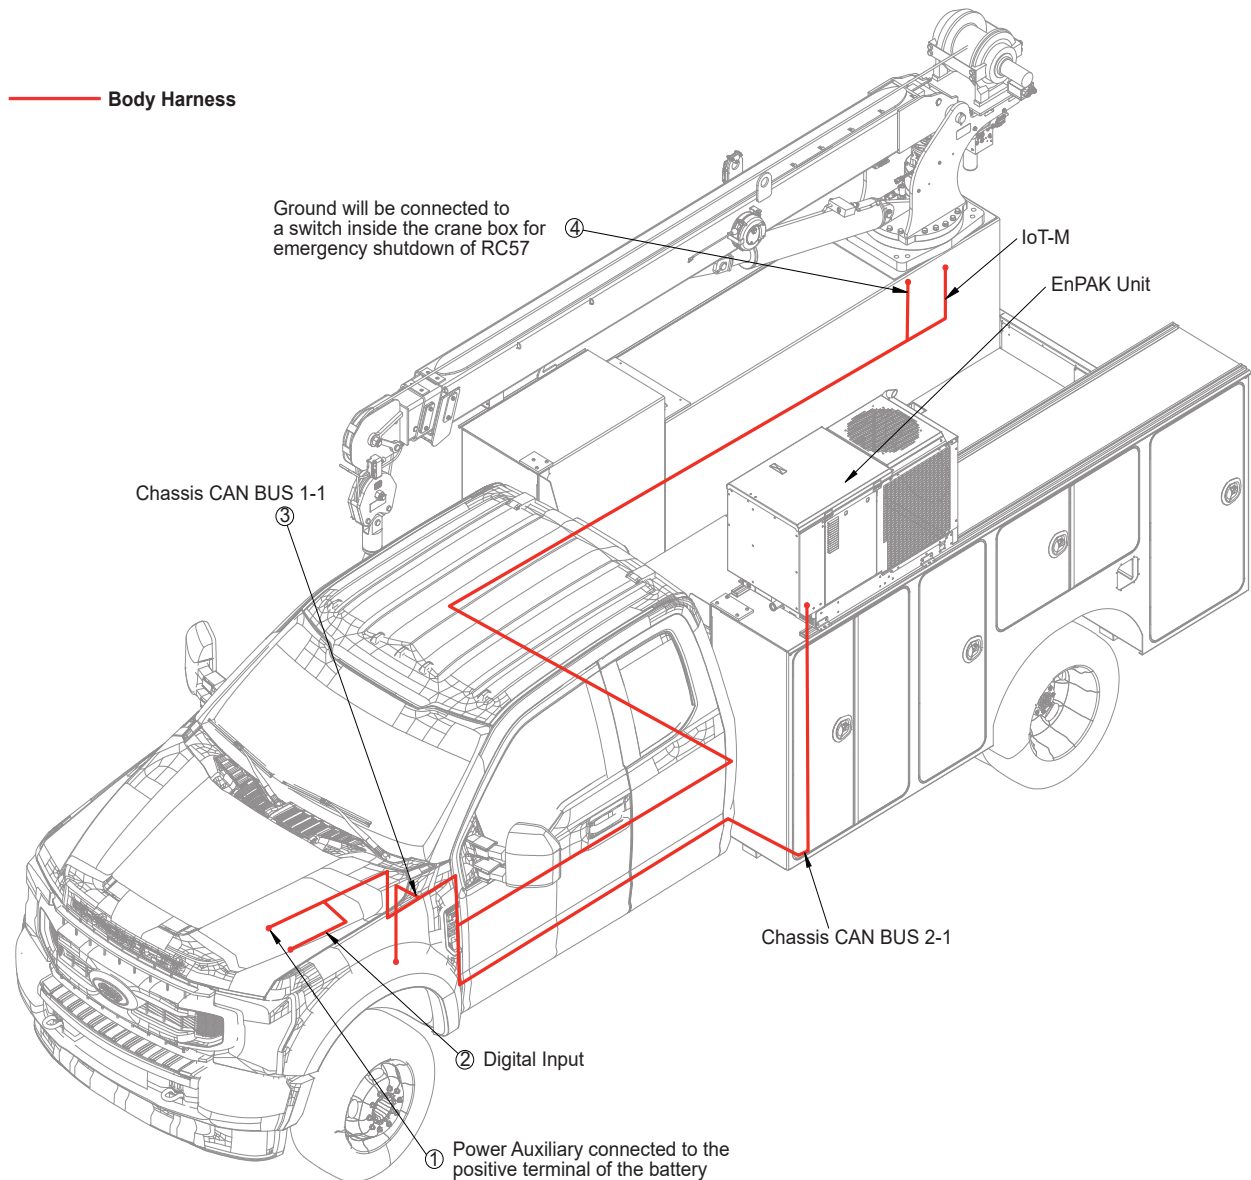

Figure 41 – Body Harness Routing
Refer to Detail 1 in Figure 41 for the connection location. Under the chassis hood, route the RC57 power auxiliary wire from the body harness to the positive battery terminal.
- A. Refer to Detail 2 in Figure 41 for the connection location of the digital input.
- D. Refer to Detail 4 in Figure 41 for the connection location.
- A. Refer to Detail 3 in Figure 41 for the connection location. Route the Chassis CAN BUS 1-1 wires to the chassis CAN wires connection location.